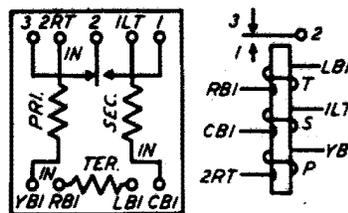

Fig. 4 — Winding and Spring Terminal Arrangement as Viewed From the Rear (terminal side) — L-, N-, and S-Type Relays
2.16 As viewed from the rear of the relay the winding and contact spring terminals are numbered consecutively from right to left as described in 2.07 through 2.11. (See Fig. 4.)